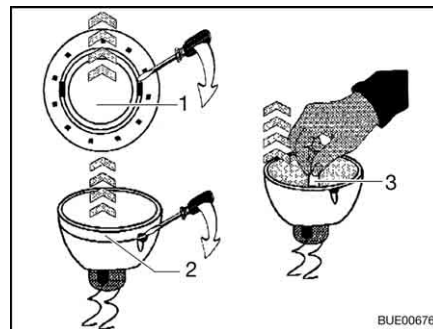

Fig. 267 Changing the halogen bulb
- Use a screwdriver to remove the inner cover ring (Fig. 267,1) from the housing.
- Use a screwdriver to remove the cover ring with the glass (Fig. 267,2) from the lower section of the recessed halogen light.
- Remove halogen bulb (Fig. 267,3).